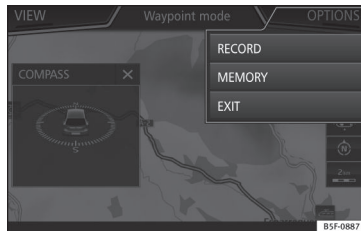

Fig. 171 Offroad Navigation Menu start
- The Offroad Navigation menu opens »» **Fig. 171**.